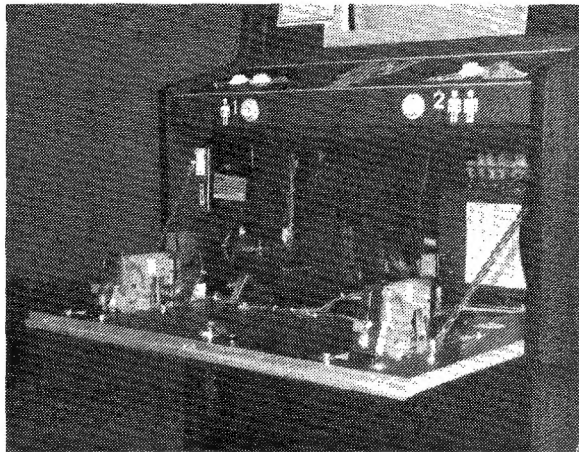

Figure 1
b) Open the coin mechanism door (see figure 1) and inspect the inside of the game electronics compartment. Be sure no components or connectors have come loose. Proper connector fittings must be checked **before** game power is applied. Check all related connectors for good contact. Although disconnected connectors are easily spotted, poor contacts are difficult to locate. The connectors should therefore be pushed in firmly and then loosened to spot poor connections.